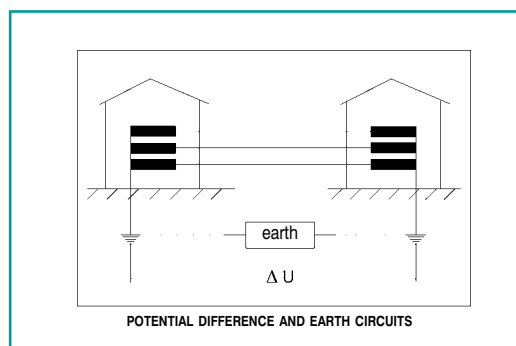

fig.5
- the higher the isolation (in kV), the greater the security of transmission where there are zero potentials, electromagnetic interference, transients (lightning, discharges etc.) (Fig. 5)